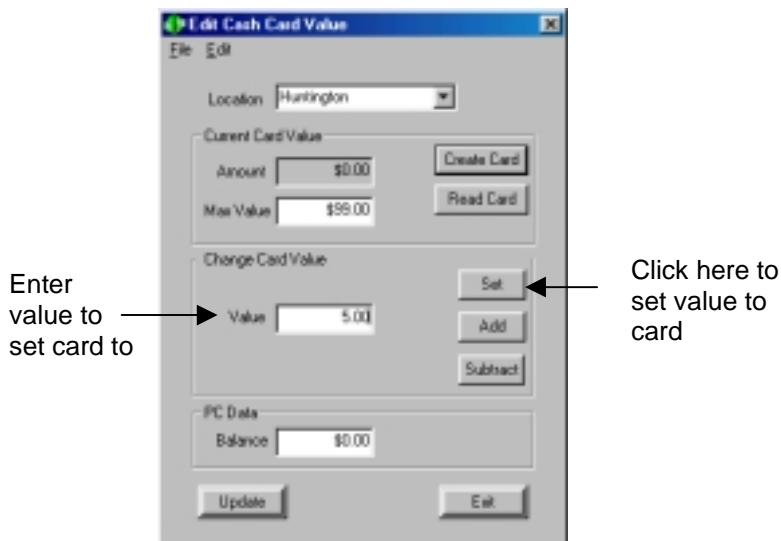

Figure 12.6 Setting Value to a Cash Card
3. Enter a value to set to the card (Figure 12.6).
4. Click the Set button (Figure 12.6). PC Balance will be updated accordingly.